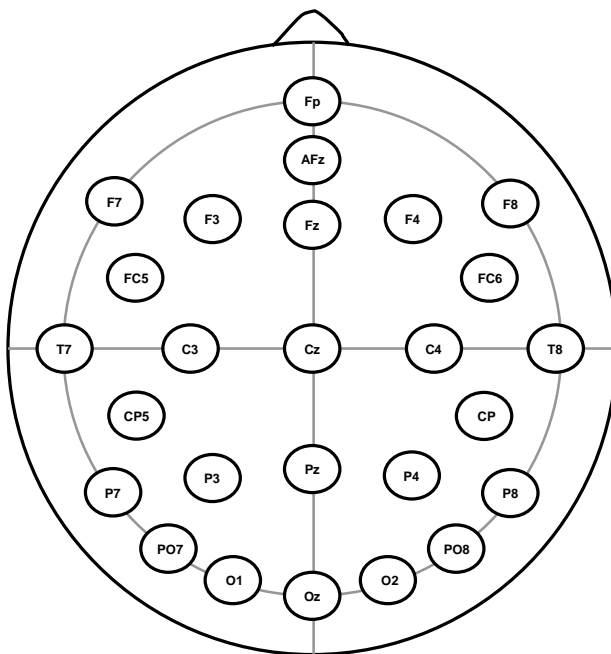

Figure 1: Mounting CFG1
- a configuration with a low density array- CFG1 - with 23 sites (Figure 1) , plus any sites for facial electro-oculogram;